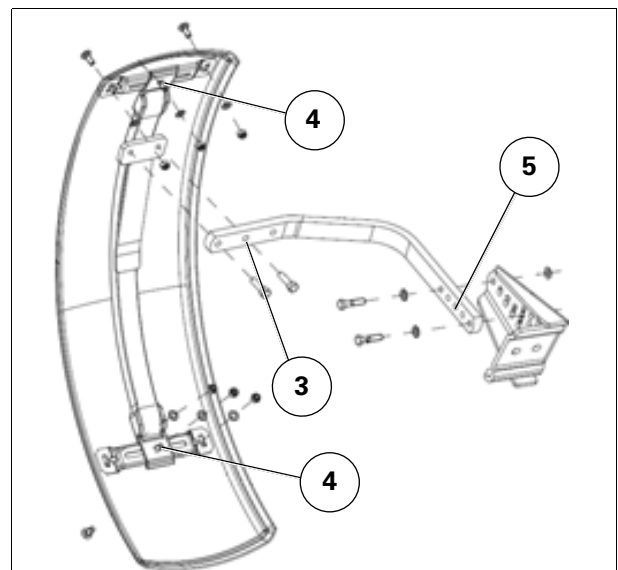

Fig. 9.
1. Modify the position of the support (5) fig. 9 to adapt the height of the fender to the size of the wheel.